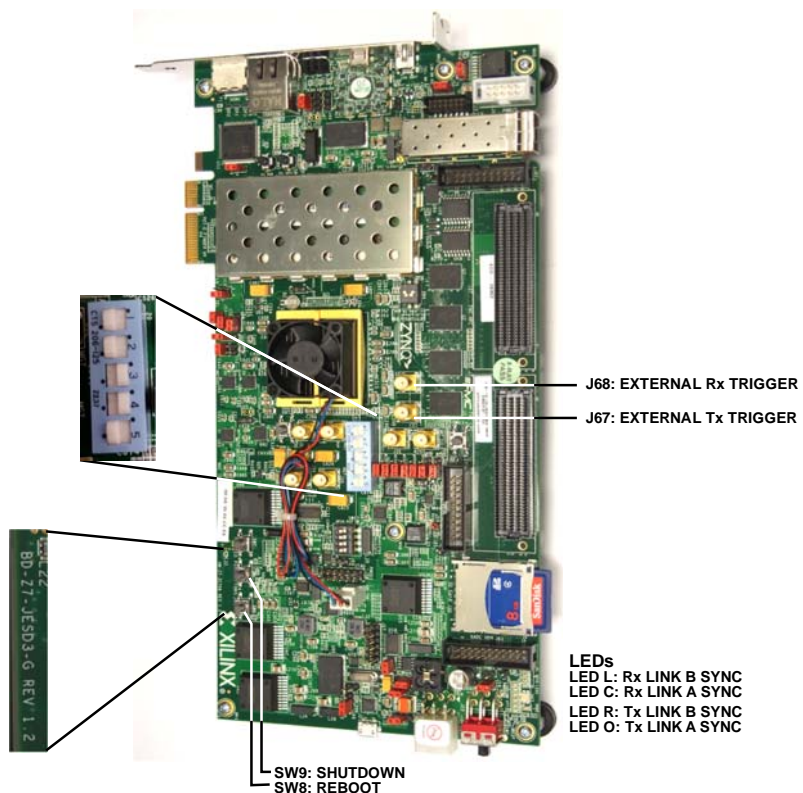

Figure 1. Zynq Evaluation Board with Jumper Settings and Switch Positions Configured to Work with the ADRV9008-1, ADRV9008-2, and ADRV9009 Evaluation Board
1. Ensure that all jumpers are in the positions shown in Figure 1.
2. SW11 must be in the positions shown in Figure 1 (Slider 1, Slider 2, and Slider 5 are in the A position).
2. Ensure that all jumpers on the Zynq motherboard, as well as the SW11 position, match the settings shown in Figure 1 (Slider 1, Slider 2, and Slider 5 are in the A position).
6. Power off must be executed using the TES software or the user must power down the Zynq system using the SW9 push button (see Figure 1) before the user powers down the evaluation system by switching SW1 off.